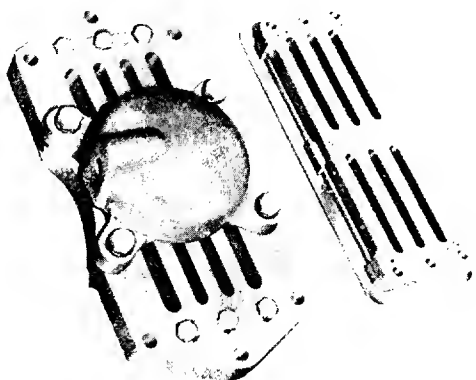

Fig. 7RN-1—Type "A" NL Rectangular Channel Valve
The Type "A" NL rectangular channel valve (Fig. 7RN-1) is an automatic compressor valve; that is, the valve is opened or closed by difference in pressure across the valve and not by mechanical linkage. NL Channel Valves are designed to operate for long periods without oil or other lubricant by eliminating all moving metal to metal surfaces.
1. The Type "A" NL rectangular inlet channel valve consists of an inlet valve seat, seat plate, valve guide holders, guides, valve channels which seat over and close a corresponding number of ports in the seat plate, wear strips, an arched leaf spring for each channel, and an inlet stop plate which limits the lift of the channels. The Type "A" NL rectangular discharge channel valve consists of a seat plate, valve guide holders, guides, channels, wear strips, springs, and a discharge stop plate. Figure 7RN-2 is an exploded view of the Type "A" NL rectangular inlet and discharge channel valve and shows valve relationship to the port plate.